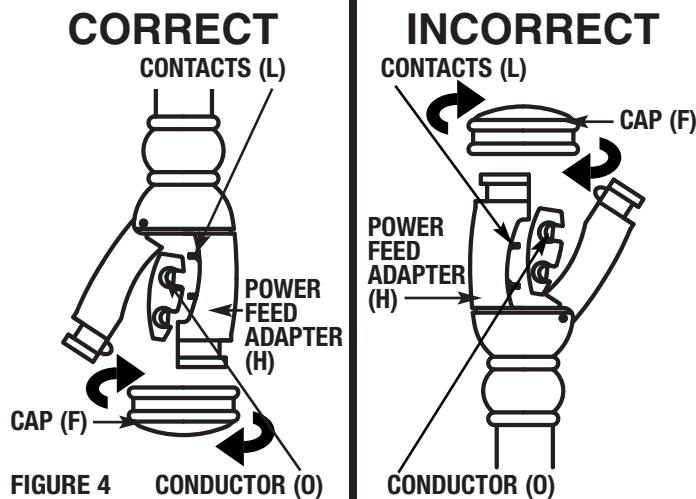

FIGURE 4
1. Unthread collar (E). Carefully slide collar (E) and canopy (D) to bottom of stem (C).
2. Make wire connections from power feed to house supply wires with wire nuts (supplied) or other UL recognized wiring device. White to white, black to black. Connect house ground wire to green grounding screw located on universal mounting bar (A).
3. Secure universal mounting bar (A) to outlet box using outlet box screws (not provided). Tilt canopy (D) in order to better access screws.
4. Slide canopy (D) over outlet box and thread collar (E) to nipple (Y) to secure. Unthread cap (F) from power feed adapter (H).
5. Install rail into adapters so rail conductors (O) face contacts (L) of power feed (see Fig 4). ***Please make sure contacts (L) fit into rail conductors (O) properly.** NOTE: If power feed or support adapters are not able to close around rail, turn rail around so adapter fits properly.
6. Close hinged side of power feed adapter (H) over rail. Use a phillips head screw driver to tighten grounding screw located just above the cap (F) on the power feed adapter (H) into the rail. Thread cap (F) back onto power feed adapter (H).
INSTALL RAIL ONTO POWER FEED AND SUPPORT (Fig. 4)
1. Unthread caps (F) from rail adapters (J).
2. Install rail into rail adapters so conductors (O) face contacts (L) of power feed (see Fig 4). ***Please make sure contacts (L) fit into rail conductors (O) properly.** **NOTE:** If power feed or support adapters are not able to close around rail, turn rail around so adapter fits properly (see fig. 4).
3. Close adapters (J) over rail and thread caps (F) back onto adapter.